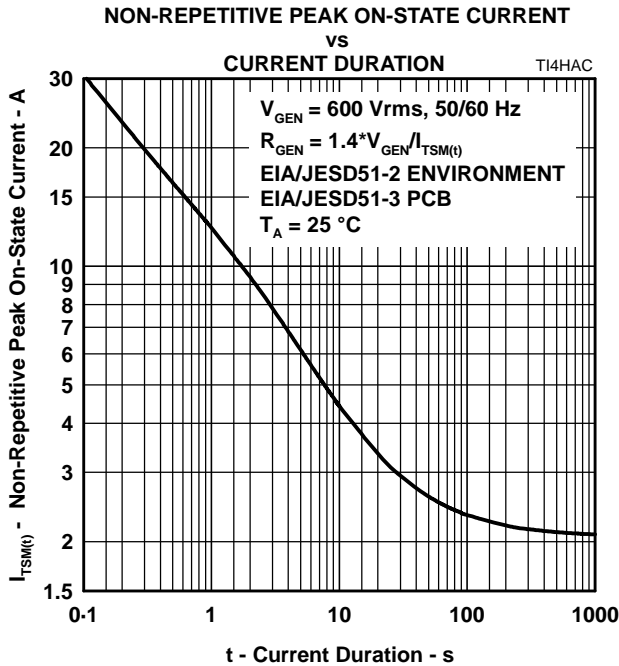

Figure 8.
5. EIA/JESD51-2 environment and EIA/JESD51-3 PCB with standard footprint dimensions connected with 5 A rated printed wiring track widths. See Figure 8 for the current ratings at other durations. Derate current values at  $-0.61\text{ \%/}^{\circ}\text{C}$  for ambient temperatures above  $25\text{ °C}$ .
The protector can withstand currents applied for times not exceeding those shown in Figure 8. Currents that exceed these times must be terminated or reduced to avoid protector failure. Fuses, PTC (Positive Temperature Coefficient) resistors and fusible resistors are overcurrent protection devices which can be used to reduce the current flow. Protective fuses may range from a few hundred milliamperes to one ampere. In some cases, it may be necessary to add some extra series resistance to prevent the fuse opening during impulse testing. The current versus time characteristic of the overcurrent protector must be below the line shown in Figure 8. In some cases, there may be a further time limit imposed by the test standard (e.g. UL 1459 wiring simulator failure).